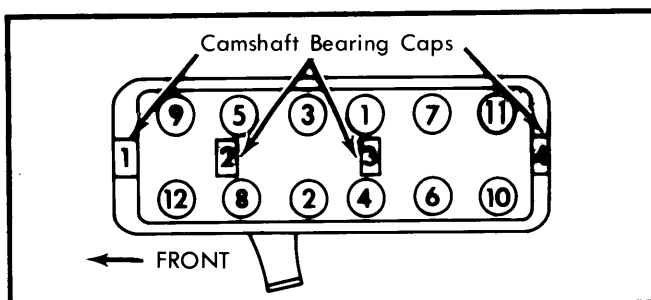

Fig. 1 Tighten Cylinder Head in Sequence Shown (Loosen in Reverse Order)
2) Install head using only polygon cylinder head bolts. Install bolts 9 and 11 to center head, then tighten bolts in sequence shown in Fig. 1.